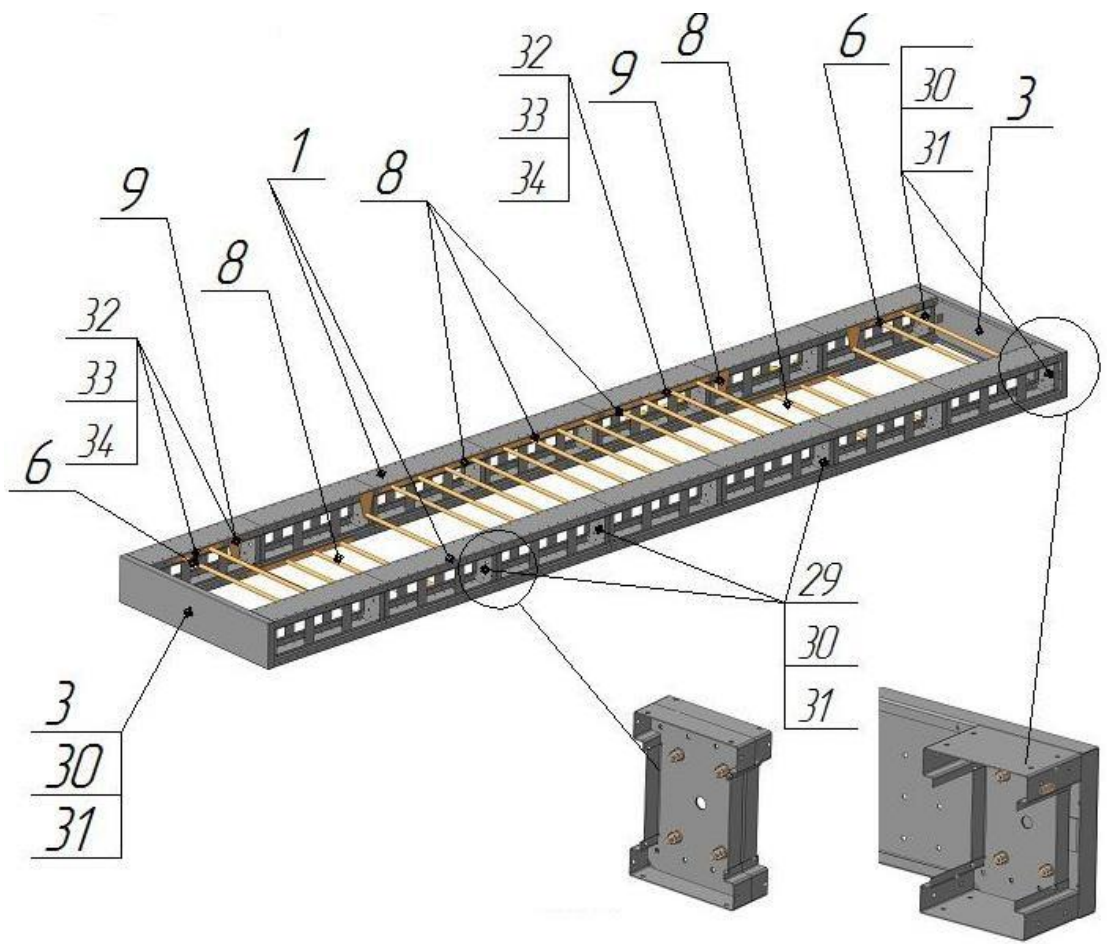

Fig.3
- 3.6 On the flat surface assemble the upper part of Complex (see fig. 3) consisting of the assembly units - positions 1, 6, 8, 9, 3 (see Table 2) and metal hardware № 32, 33, 34, № 29, 30, 31. Do not tighten the threaded connections.